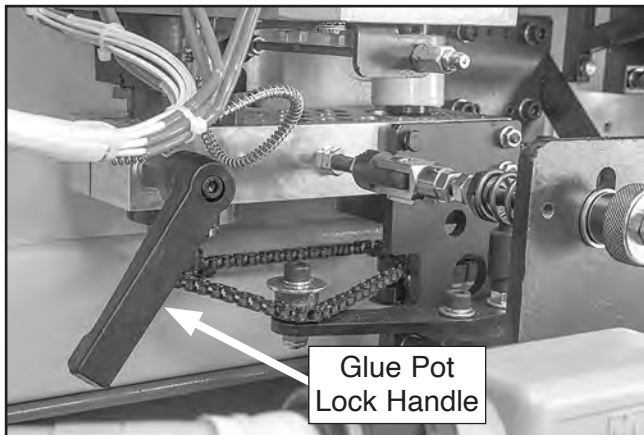

Figure 94. Location of glue pot lock handle.
6. Loosen glue pot lock handle (see **Figure 94**).